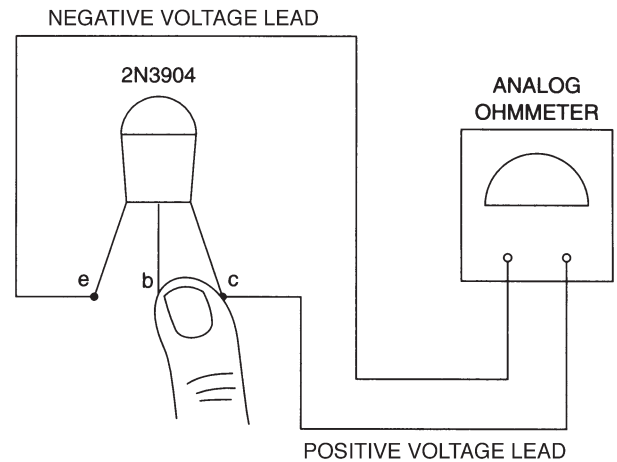

FIGURE 17-36 Finger used as collector, to base resistor.
6. Place your fingertip between the transistor collector and the base lead, as shown in Figure 17-36. (See Note 2.)